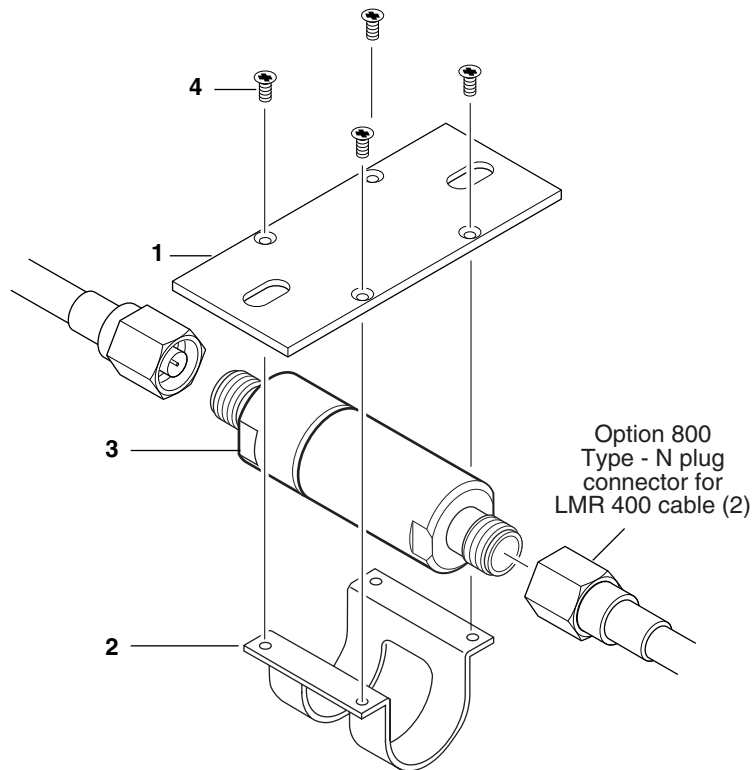

Figure 4. Line Amplifier and Mounting Plate with Brace
Refer to Figure 4. A mounting plate and brace (1 & 2) are available for the 58529A line amplifier (3). Four screws (4) attach the brace around the amplifier to the mounting plate. For ordering information, see “Parts Required,” above.